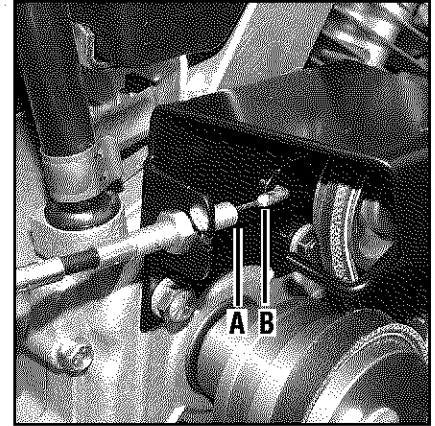

Figure 5-5: Measure cable wire length to check for correct reverse belt tension.
3. Have an assistant pull the Reverse Clutch Control knob all the way out and hold it in that position. Measure the length of the cable wire between the end of the threaded cable adjuster (A, Figure 5-5) and the end of the Z-fitting (B) to which the cable wire is attached.